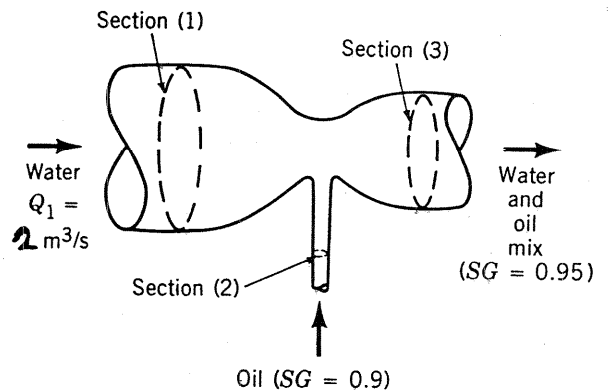

FIGURE P5.14
5.14 Oil having a specific gravity of 0.9 is pumped as illustrated in Fig. P5.14 with a water jet pump (see Video V3.6). The water volume flowrate is $2 \text{ m}^3/\text{s}$. The water and oil mixture has an average specific gravity of 0.95. Calculate the rate, in m^3/s , at which the pump moves oil.